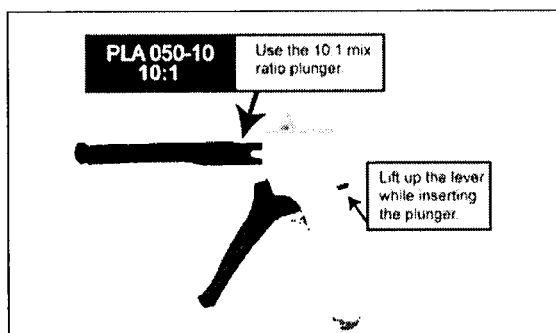

figure 3
2. Assemble applicator by first installing the 10:1 mix ratio plunger assembly as shown in *figure 3*. Lift up the lever on the back handle and insert the plunger.